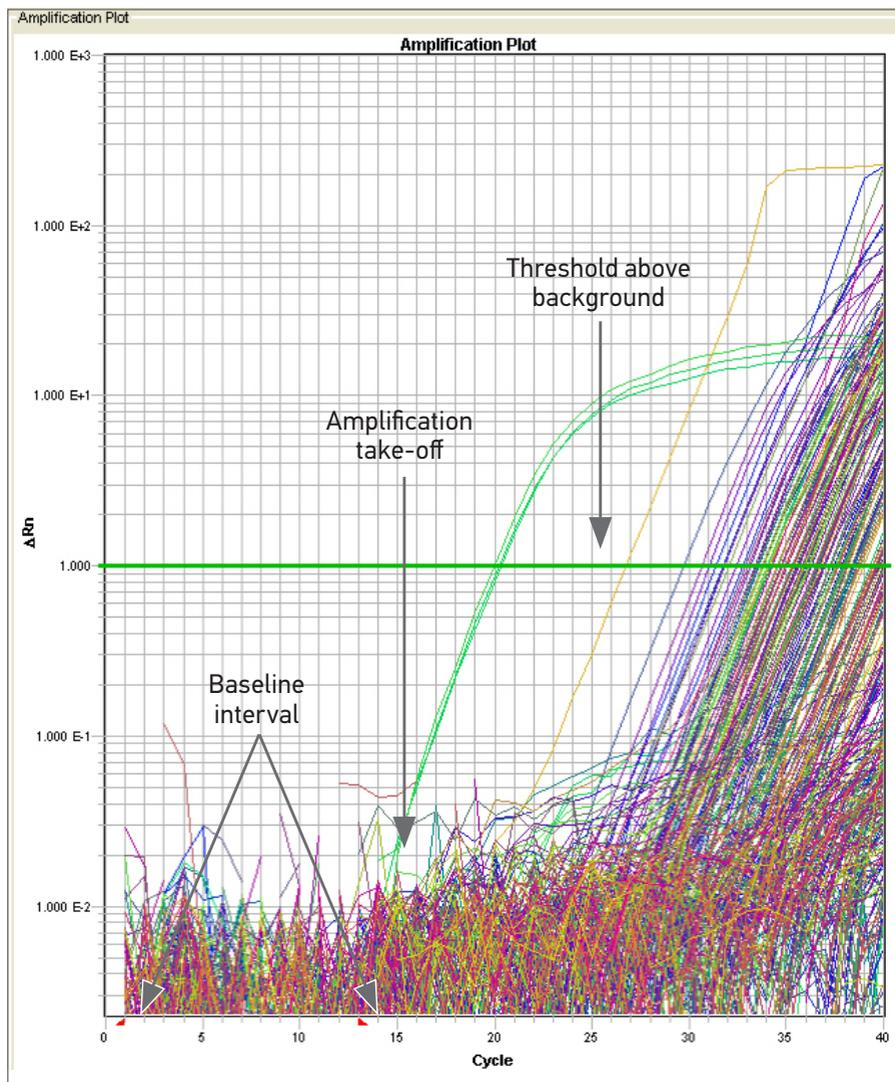

Figure 3. Baseline setting.
**Baseline:** The baseline should be calculated in the cycle interval before the amplification takes off (see Figure 3).
**Threshold:** The threshold should then be set with the Y-axis in log scale where all assays are in the log linear phase, and the threshold above background for all assays (see Figure 3).